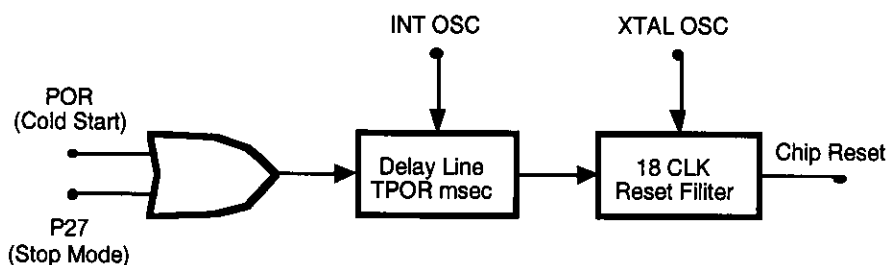

Figure 10. Internal Reset Configuration
**RESET.** This function is accomplished by means of a Power-On Reset or a Watch-Dog Timer Reset. Upon power-up, the Power-On Reset circuit waits for  $T_{POR}$  ms, plus 18 clock cycles, then starts program execution at address 000C (Hex) (Figure 10). The Z8 control registers' reset value is shown in Table 3.